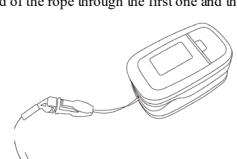

Figure 4. Mounting the hanging rope
- A. Refer to Figure 4. Put the end of the rope through the hole.